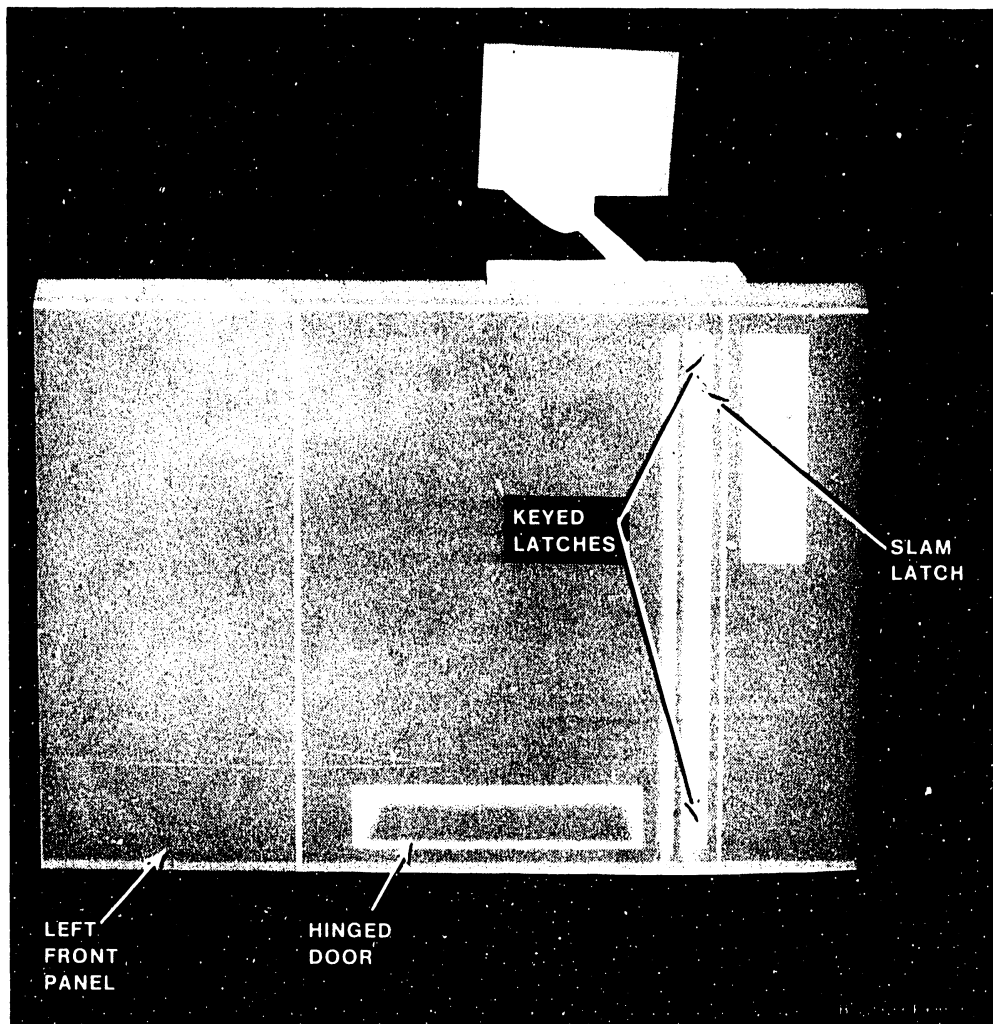

Figure 5-9. Left Front Panel Removal
Remove the left front panel as follows: (See figures 5-9, 5-10, 5-11.)
3. Open the front hinged door by turning the top and bottom keyed latches (figure 5-9) counterclockwise, unlock the slam latch, and remove the black card cage cover by turning the 1/2 turn fasteners.